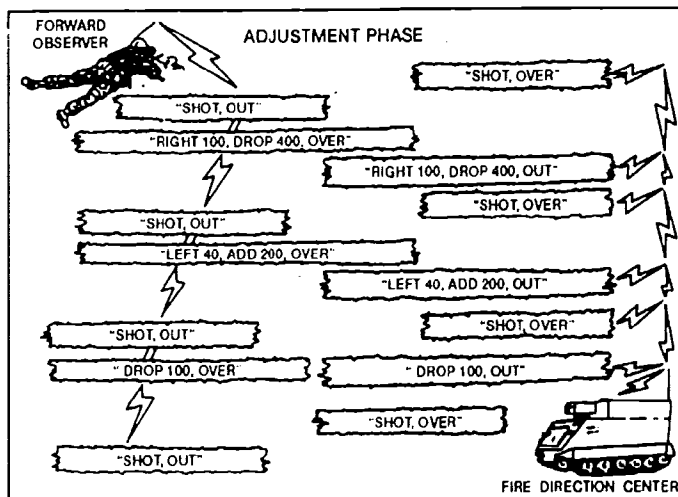

Figure 061-283-6003-6. Adjustment Phase
e. Transmit corrections to the FDC in meters. The initial correction should bracket the target in range. The adjustment phase of a fire mission would resemble the example shown in figure 061-283-6003-6. Deviation correction should be made to keep the rounds on the observer target line.